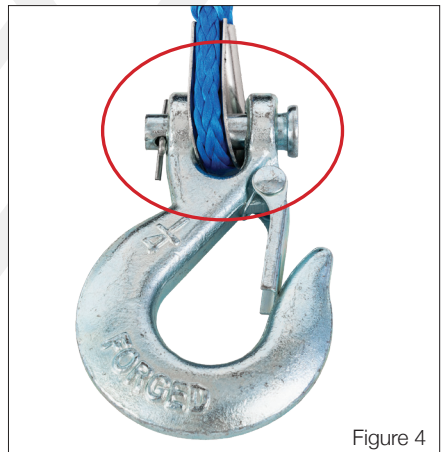

Figure 4
- Pull out a short length of cable from the drum. Remove the pin from the clevis hook, position the clevis hook's mounting holes in-line with the cable eyelet and reinsert mounting pin. Ensure that the cotter pin ends are bent to ensure that it stays secure. Fig.4